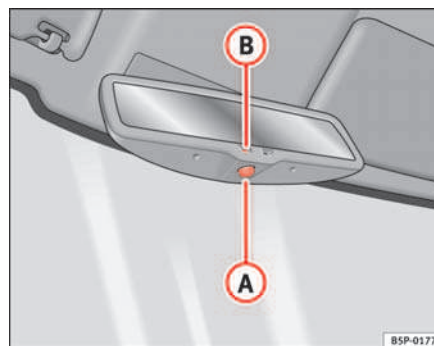

Fig. 89 Automatic anti-dazzle interior mirror.
- Press button (A) ⇒ fig. 89. Warning lamp (B) goes out:
- Press button (A) ⇒ fig. 89. Warning lamp is lit.